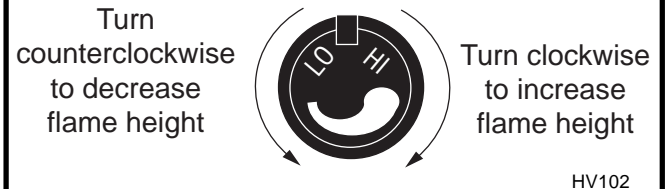

Fig. 38 Flame adjustment knob for Honeywell valve.
6. Scatter the ember material over the front area of the burner housing assembly (Refer to Figure 38 for details). Do not pack this material tightly, separate it when unpacked and keep it in a loose condition.
For units equipped with 'HI/LO' valves the flame adjustment is accomplished by rotating the 'HI/LO' adjustment knob located near the center of the gas control valve. (Fig. 38)